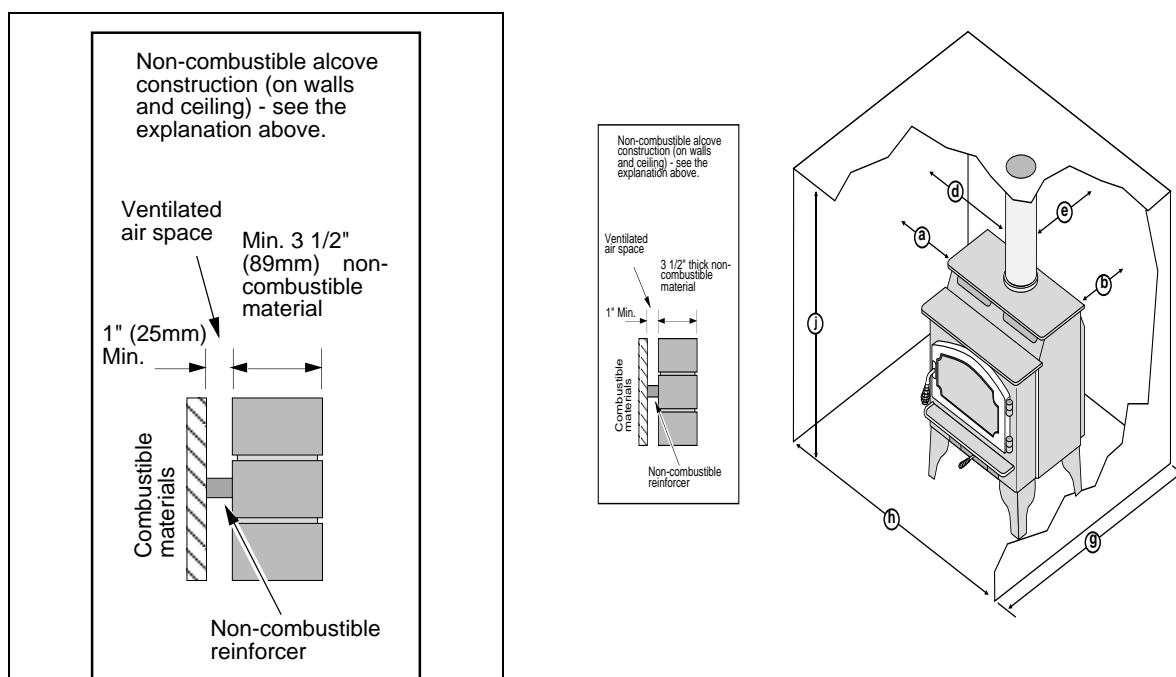

Figure 7
- Alcoves are classified as combustible or non-combustible. Non-combustible alcoves must have walls and a ceiling that are 3 1/2" (89mm) thick of a non-combustible material (brick, stone, or concrete - see Figure 7). This non-combustible material must be spaced and ventilated at least 1" (25mm) off of all combustible materials (walls, ceiling, etc.) to allow air to move around the non-combustible walls and ceiling. All other alcoves are considered combustible. The clearances below must be met: